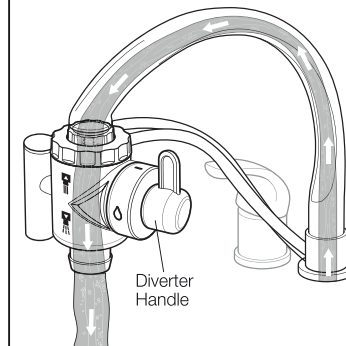

Figure 4.1 – Diverter Handle Up, Water
- Diverter handle up (vertical) for unfiltered water (see Figure 4.1).